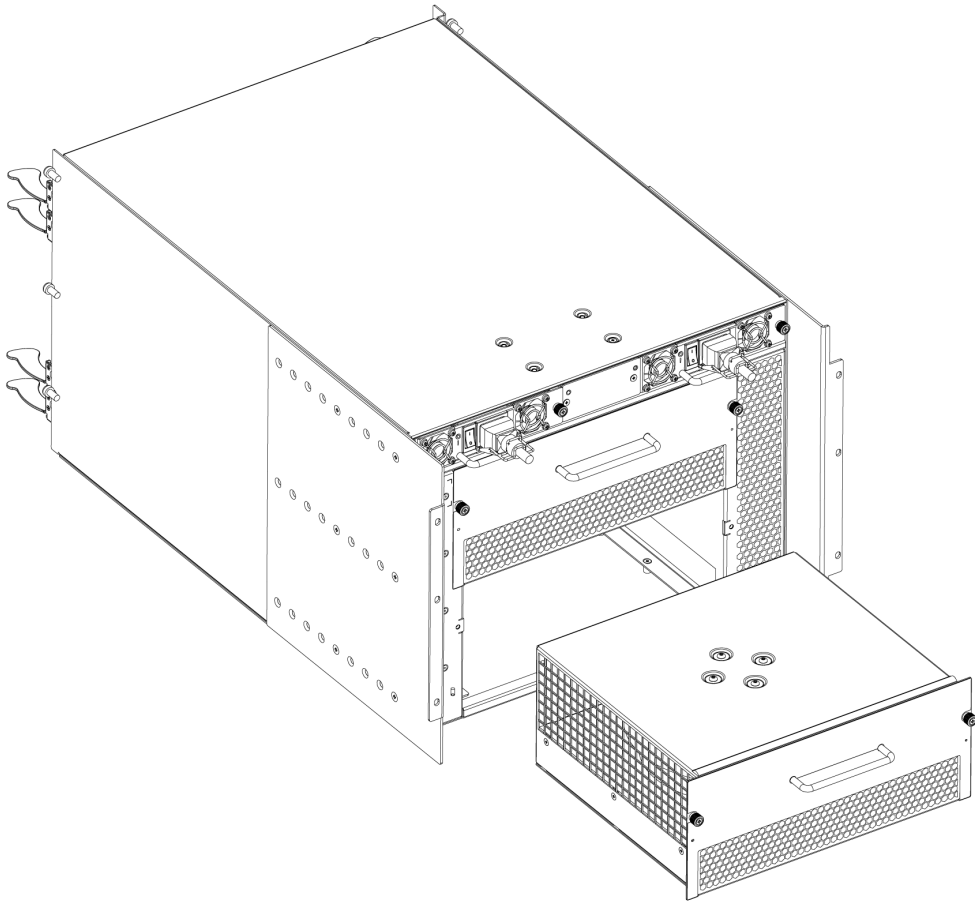

Figure 25 **RRP: Blower assembly**
2. Use the screwdriver to loosen the captive screws at the left and right of the blower assembly as shown in Figure 25 on page 115.